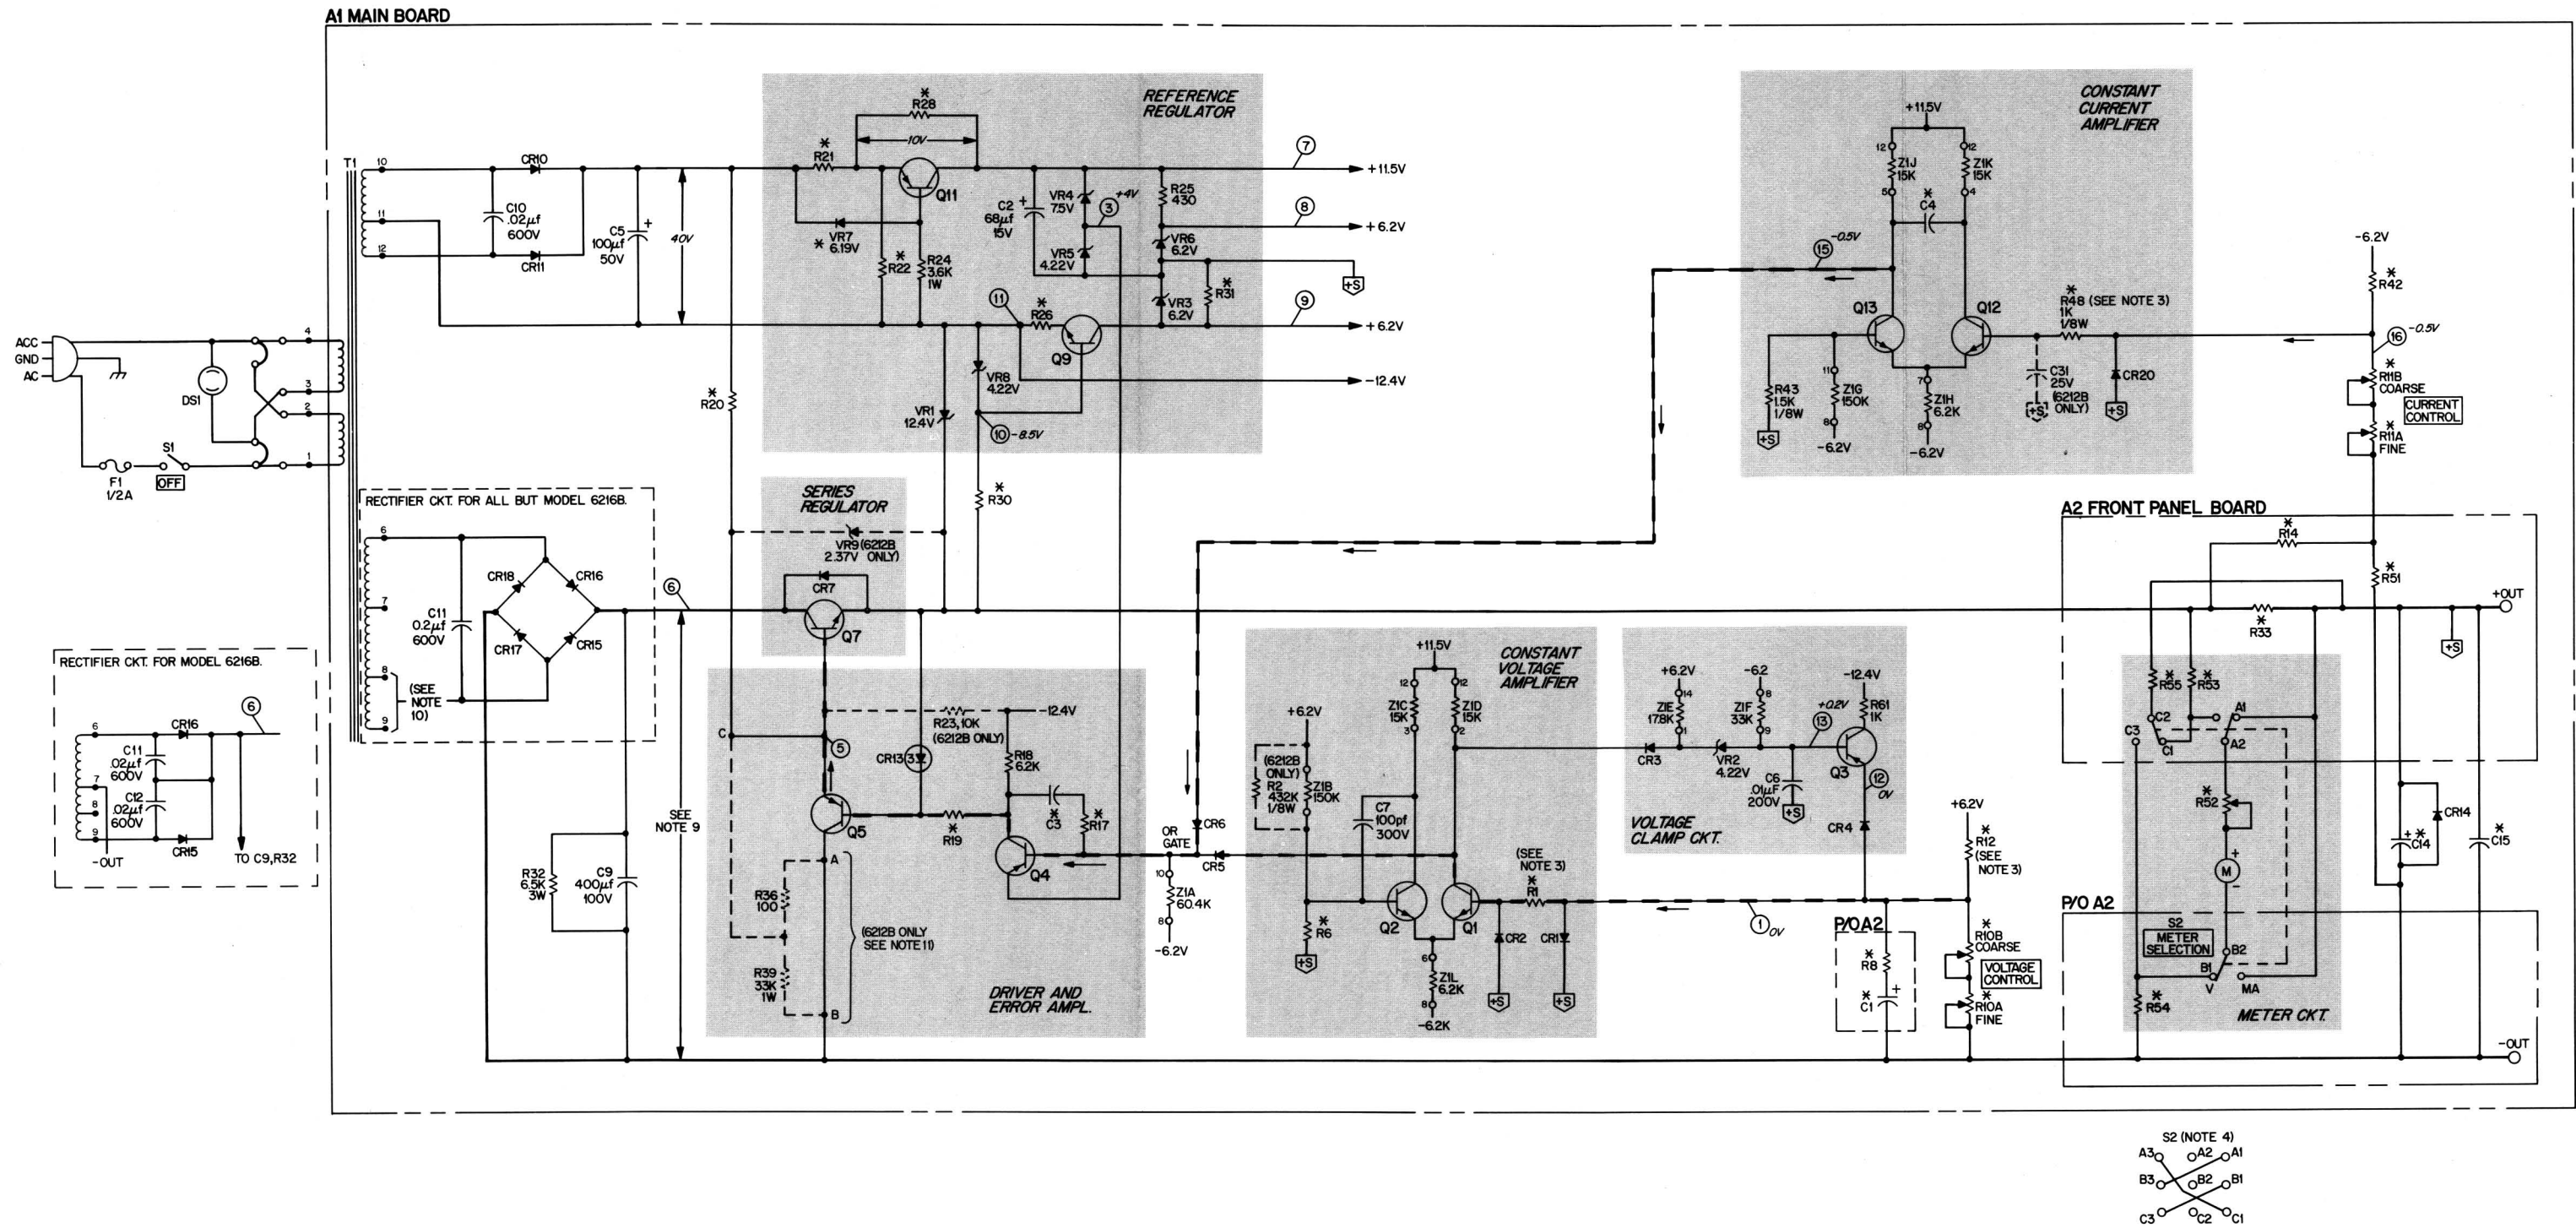

Figure 7-3. Schematic Diagram.
- b. Schematic Diagram, figure 7-3, which illustrates the circuitry for the entire power supply. Voltages are given adjacent to test points, identified by encircled numbers on the schematic and printed wiring board.